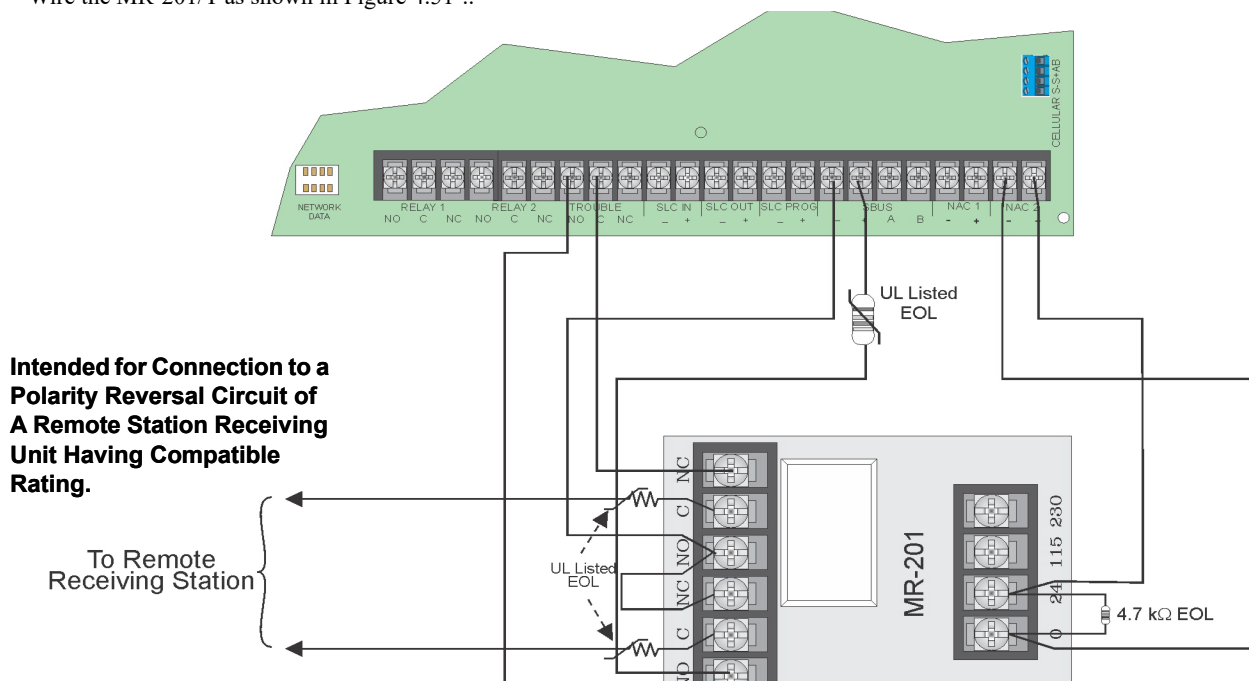

Figure 4.51 Polarity Reversal Connection Using the MR-201/T Relay
1. Wire the MR-201/T as shown in Figure 4.51'..